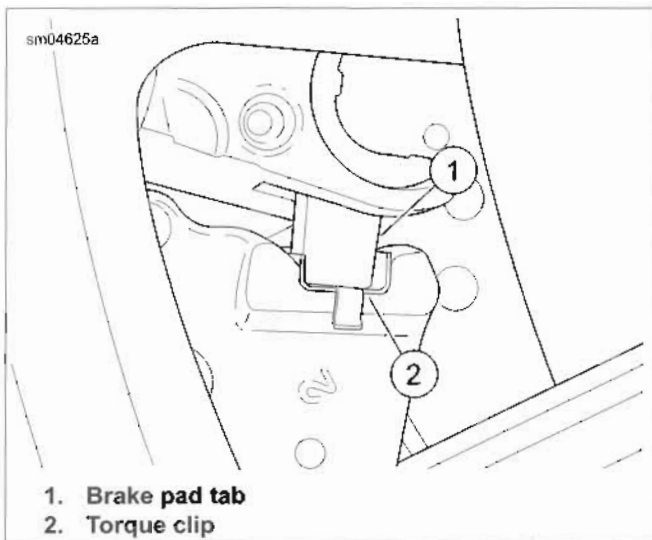

Figure 1-35. Rear Brake Pad Installation
11. See Figure 1-35. Install **new** brake pads and pad pin. Tab (1) must engage clip (2) in caliper housing. Tighten pad pin to 80-120 **in-lbs** (9.0-13.6 Nm).